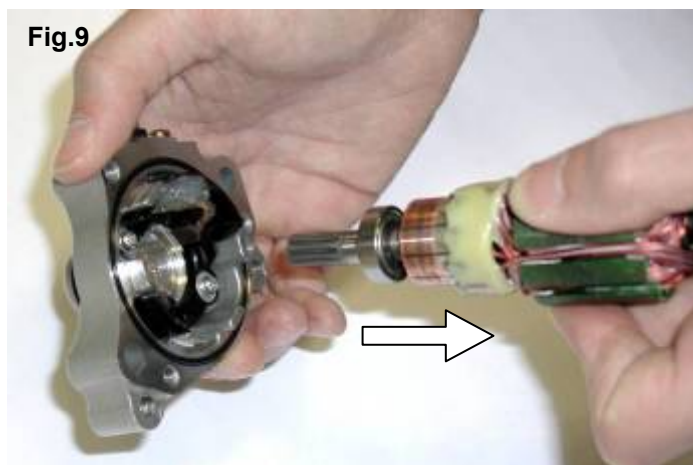

Fig.9
- EXTRACT ROTOR FROM THE STARTER HEAD (see Fig. 9)